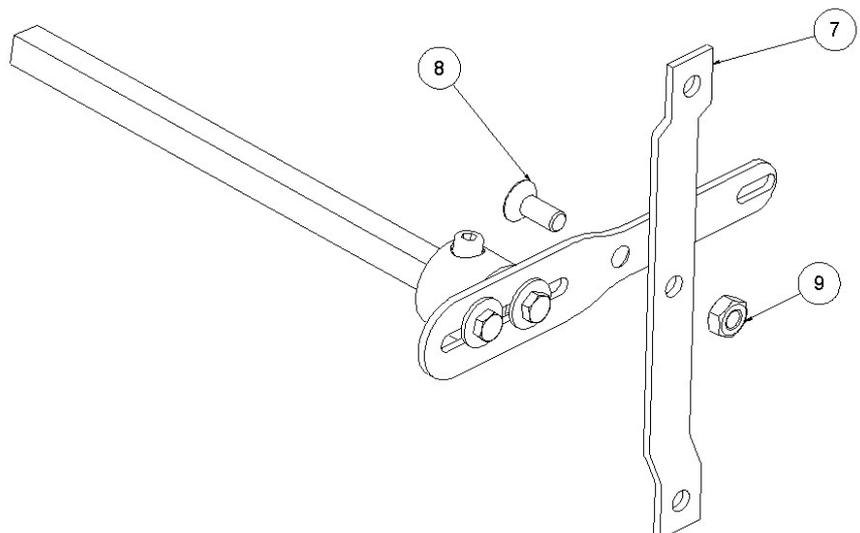

Figure. 2
3. **GOVERNOR LINKAGE PLACING:** One of the screwed arms must be fixed to the governor linkage (7) through the M10 x 25 DIN 7991 screw (8) and the M10 DIN 985 Autoblock nut (9) – Fig. 2 –.